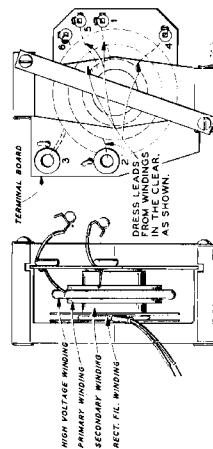

Fig. 16—Transformer Winding Leads
- Dress I-8 winding leads as shown in Figure 16.